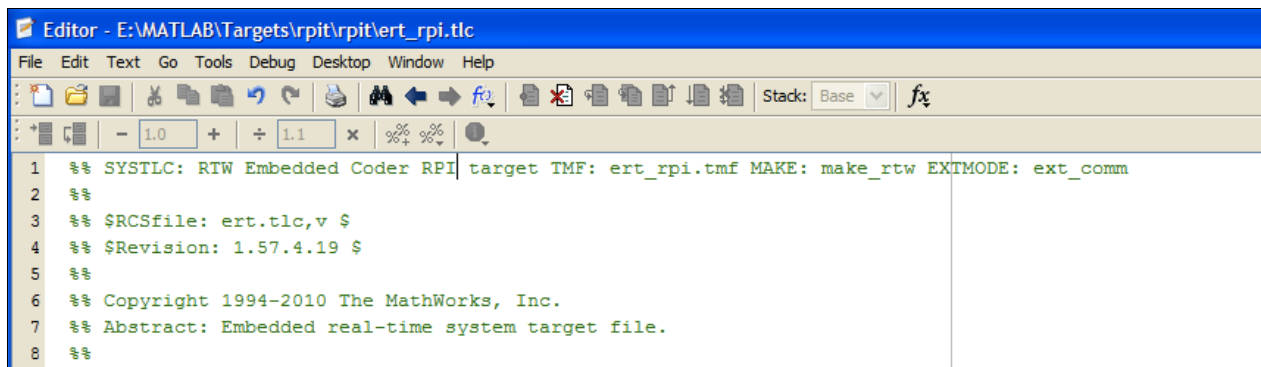

Figure 4 - Customize main TLC file header
4. Edit the file "ert_rpi.tlc" with your preferred text editor (you can use Matlab's one). Change its header according to Figure 4. The information in the header will be used by Simulink when browsing for a target file.